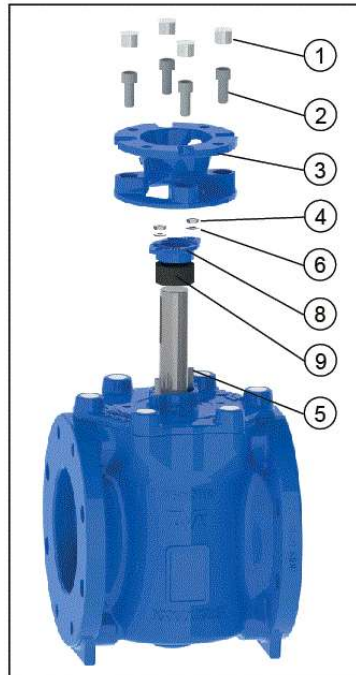

Fig.15
7.1 Packing adjustment (Figure 15)
2. Tighten the two gland nuts (4) on gland (8) to stop the leakage.
7.2 Packing replacement (Figure 15)